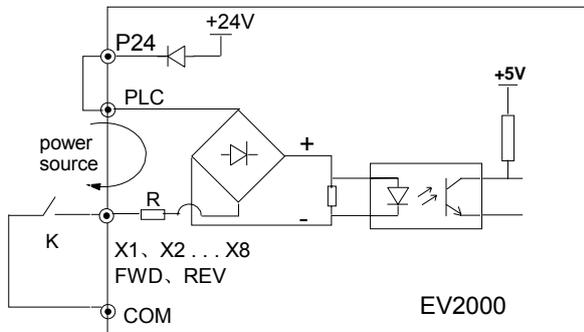

Fig. 3-22 Using internal 24V power supply
① If internal 24V power supply is used, the wiring is shown in Figure 3-22.